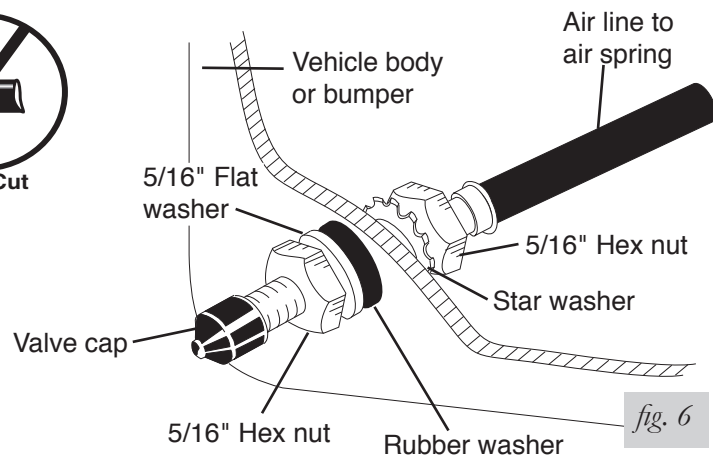

fig. 6
4. Place a 5/16" nut (GG) and a star washer (FF) on the air valve. Leave enough of the inflation valve in front of the nut to extend through the hole and have room for the rubber washer (EE), flat washer (DD), and 5/16" nut (GG) and cap (CC). There should be enough valve exposed after installation - approximately 1/2" - to easily apply a pressure gauge or an air chuck (fig. 6).